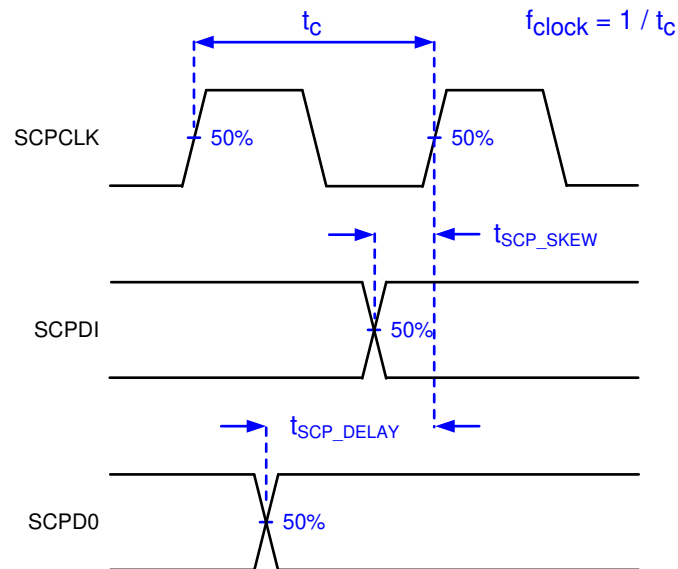

图 6-3. Serial Communications Bus Timing Parameters
- (5) PWRDNZ input pin resets the SCP and disables the LVDS receivers. PWRDNZ input pin overrides SCPENZ input pin and tri-states the SCPDO output pin.
- (6) The SCP clock is a gated clock. The duty cycle shall be $50\% \pm 10\%$. SCP parameter is related to the frequency of DCLK.
- (7) Refer to 图 6-3.
- (8) SCP internal oscillator is specified to operate all SCP registers. For all SCP operations, DCLK is required.
SERIAL CONTROL BUS TIMING PARAMETERS (See 图 6-3 and 图 6-4)